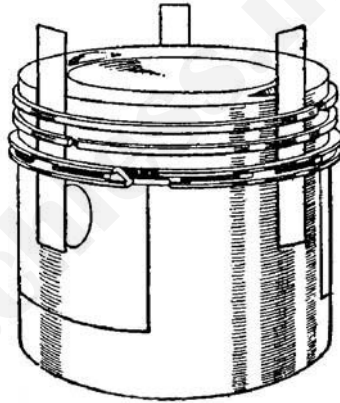

FIG.49. THE SAFEST METHOD OF REMOVING AND FITTING PISTON RINGS.
6. **Removing Piston Rings.** The piston rings should not be disturbed more frequently than once every alternate decarbonizing, provided that engine compression remains good. The rings can be removed by "peeling off" with a small knife, but it is preferable to remove them with the aid of three strips of thin sheet-metal (about 1/4 in. wide) inserted beneath each ring as shown in Fig. 49. The rings, being made of cast iron, cannot safely be sprung out wider than the piston-crown diameter. If the rings are stuck with carbon, apply some paraffin. If this fails, use a proprietary ring removal tool.
Clean the rings thoroughly on their inside faces, also the ends of the rings, and the slots in the scraper ring (see Fig. 49). Piston rings are made to very precise dimensions, and it is not generally practicable to fit oversize rings unless the piston is renewed also. Always fit genuine A.J.S. rings which are dimensionally correct. To reduce cylinder-bore wear, a chromium-plated top compression ring is fitted to 1953 and later engines.
If the cylinder barrel and piston have been removed, it may be advisable to scrape carbon off the inside of the piston but, unless the deposits are thick, this should not be done. Remove all carbon from the piston crown, but do not touch the skirt. Any attempt to scrape the piston skirt may have disastrous results. The piston-ring grooves, however, need attention. Clean these up thoroughly, but be very careful not to damage the actual metal comprising the sides of the grooves. Make sure that the holes in the groove for the scraper ring (see Fig. 49) are unobstructed.
15. Fitting Piston Rings. If these have been removed, fit them in their grooves, which should first be oiled. The safest method of fitting the piston rings is to use three strips of thin sheet-metal, as illustrated in Fig. 49. Fit the (bottom) scraper ring first, and then the two compression rings. Space the ring gaps evenly, that is, at 120 degrees to each other. It is assumed that the ring gaps are within the permissible limits (see page 87). If new rings are fitted, these are correctly "gapped" by the makers and are ready for immediate use.